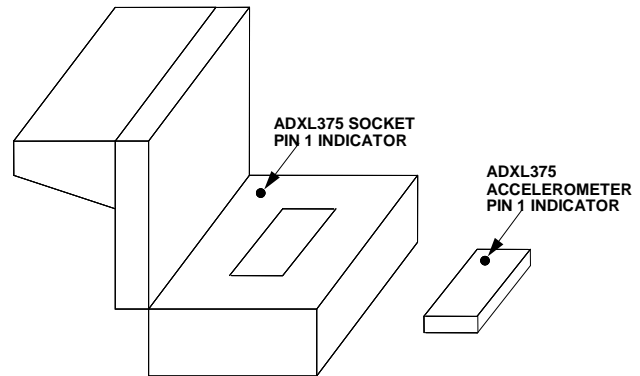

Figure 15. Location of Pin 1 Indicators for the ADXL375 Accelerometer and Socket
2. Place the ADXL375 accelerometer into the socket on the satellite board. The Socket Pin 1 Indicator is located inside the socket close to the hinge, as shown in Figure 15. This pin